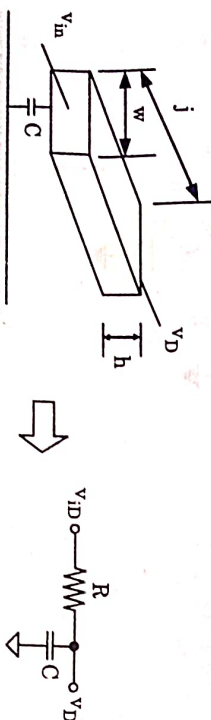

Fig. 2.6.1. Lumped RC model of wire channels.
- When the physical dimension, in particular, the length, of a wire channel is much smaller as compared with the wavelength of the signal passing through the channel, the channel can be treated as a lumped element with its characteristics depicted by a low-pass RC network, as shown in Fig. 2.6.1, with